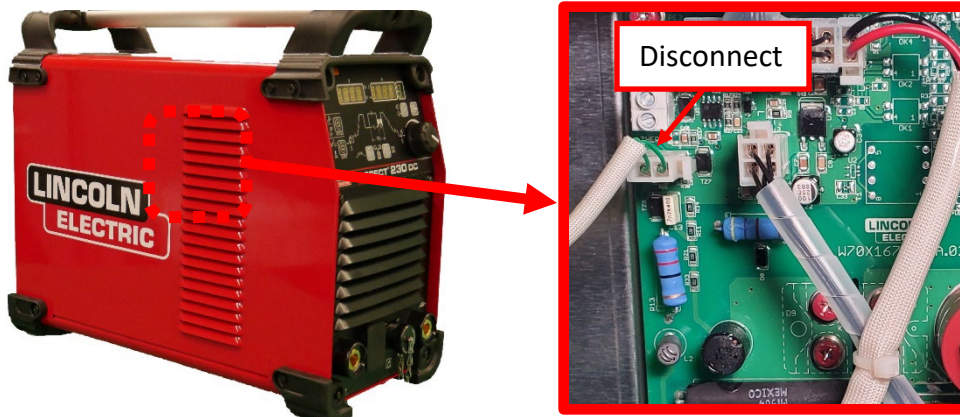

Figure F.4
A.4. Power the machine down and remove input power, label and remove connector identified before proceeding. Refer to Figure F.4 for location.